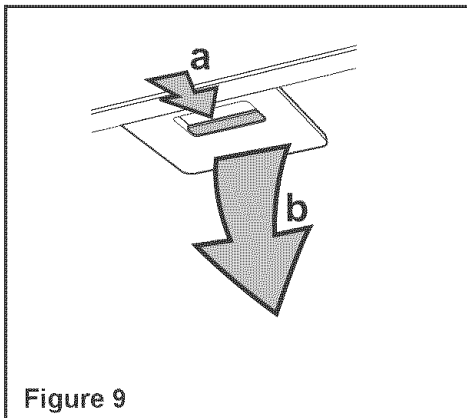

Figure 9
- Push each handle towards the center and pull downwards Figure 9.